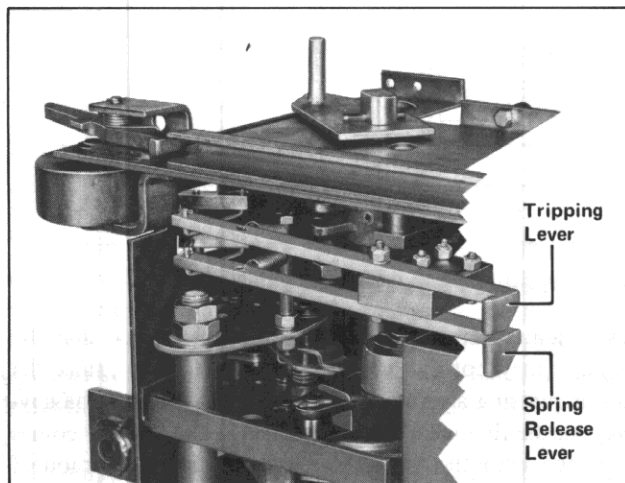

Fig. 28 Floor Tripping and Closing Spring Release Levers (Floor Trippers) (393900)
4. **Floor Tripping and Closing Spring Release Interlocks** — The floor tripping and closing spring release interlocks operate to trip the breaker and discharge the closing spring when the breaker is inserted into the cell to the test position or removed from the cell. Cam plates on the cell floor Fig. 22 lift trip levers on the underside of the breaker, Fig. 28, to trip the breaker and/or discharge the closing spring.